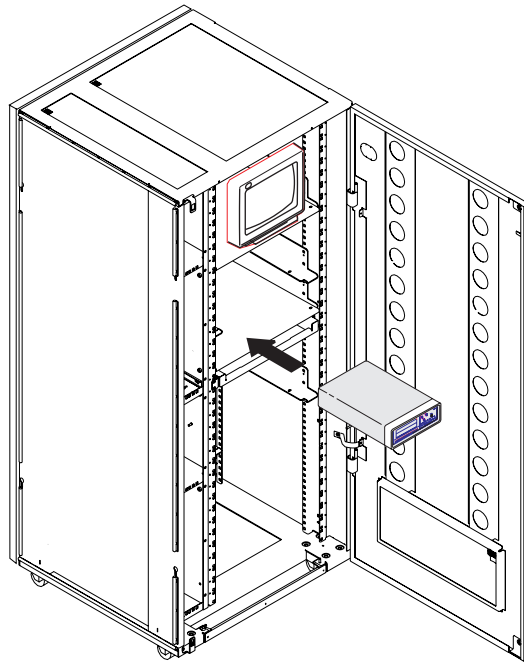

Figure 1-94. Installing the 7855 in the Controller Expansion
26. ____ Slide the 7855 in the controller expansion as shown in Figure 1-94.